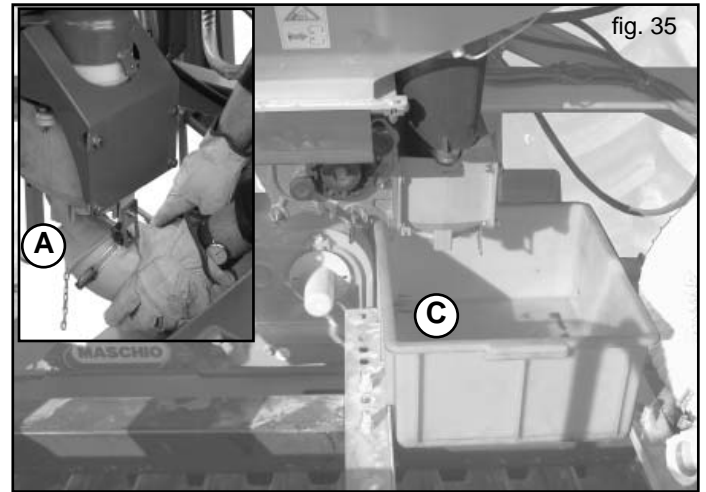

fig. 35
- 2) Remove the bend under the injecting tube (A, Fig. 35), by loosening the quick closing device.
- 3) Position collecting container (C, Fig. 35).